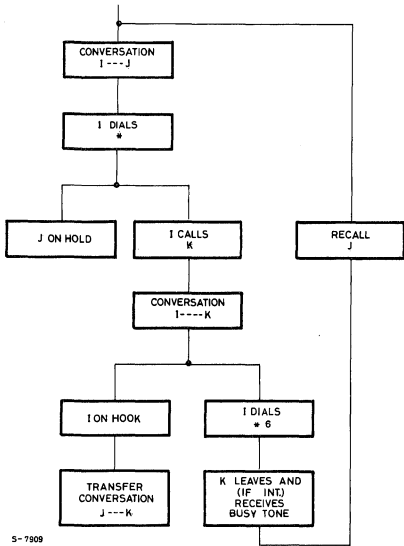

Figure 12. Hold/Recall and Transfer
**Hold/Recall.** (see Figure 12). After a call is placed on hold by following the appropriate procedure, another internal or external line may be dialed. The call 'on hold' may be recalled by dialing 6 and the previous conversation resumed.
**Transfer.** (see Figure 12). After placing a conversation on hold and establishing a conversation with another person, a transfer may be executed by going "on-hook". However, a transfer to interconnect two external lines is not allowed.